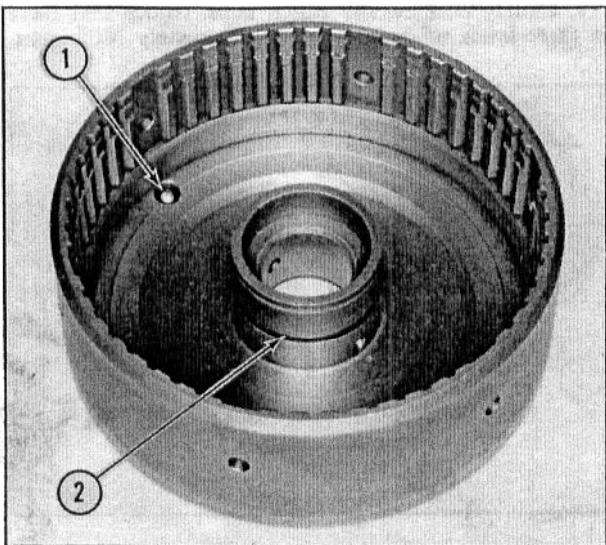

Fig. 45 — Preparing the Cylinder for Assembly
1. Place a small steel ball in the recess in the cylinder. Install a new ring in place on the piston and around the center hub of the cylinder. Lubricate these areas and slide the piston into position in the cylinder. See Fig. 45.
10. Notice that there are six cut-out portions in the splined area of the cylinder. See Fig. 45.